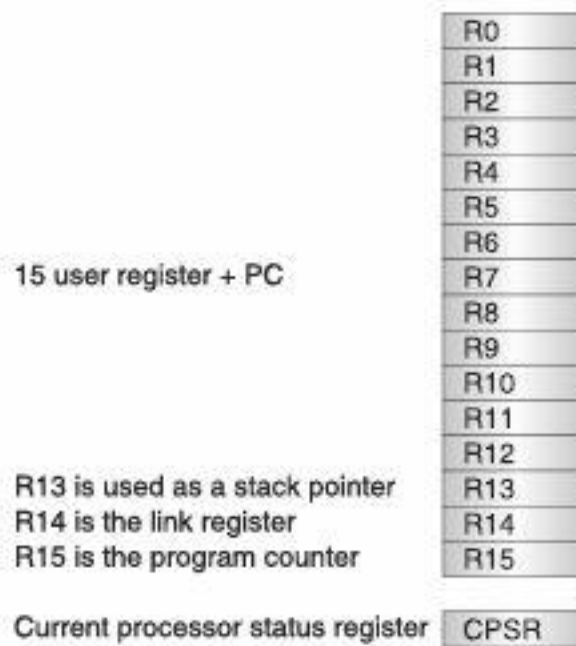

Fig. 9.7 User Mode Register Model.
The programmer's model of the ARM 7 consists of 15 user registers, as shown in Figure 9.7, with R15 being used as the Program Counter (PC). Since the ARM 7 is a load-and-store